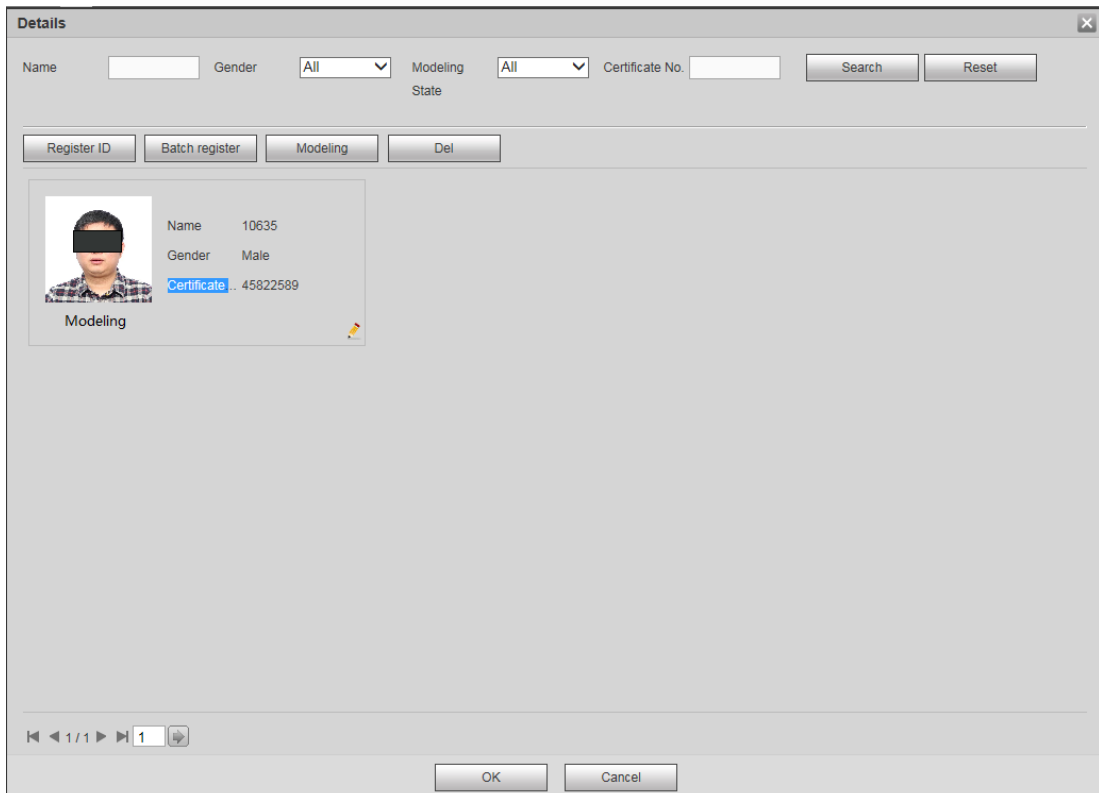

Figure 5-87
5. Click OK to complete the register. The system displays as Figure 5-87